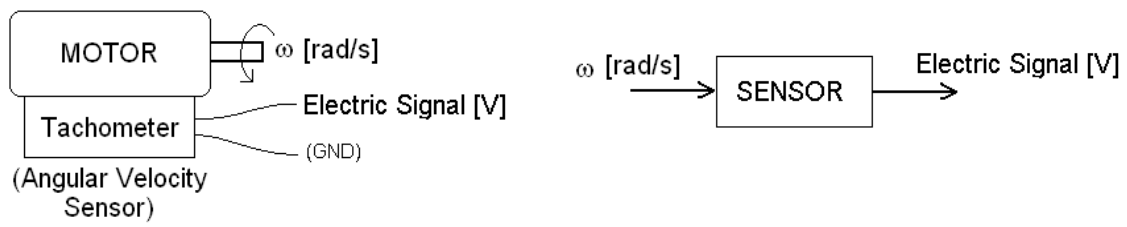

Figure 3 - Diagram of a Tachometer
- Tachometer: output a voltage depending how fast the tachometer's shaft is rotating (Figure 3).